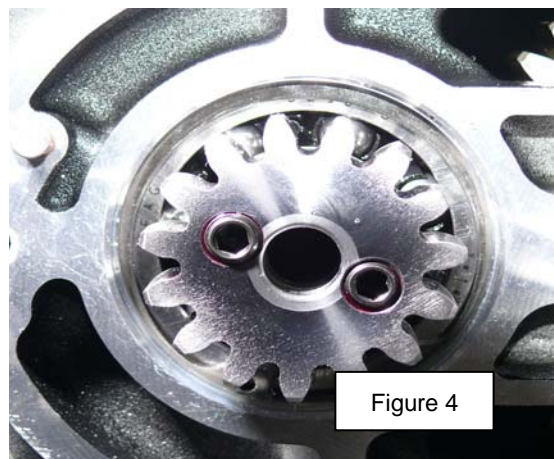

Figure 4
3.10 Apply red Loctite to threads of the stainless steel locking screws and install into small gear. Figure 4